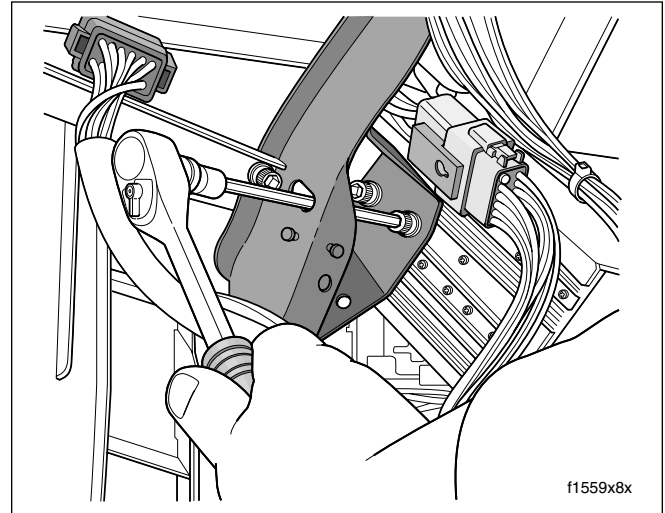

Figure 8-141. Release Radio from Fairing Brackets (FLHTC/U)
5. Using a long shank ball end socket (Snap-on® FABL6E), remove four socket head screws to release radio (storage box on FLHT) from left and right radio support brackets. Use oblong holes in fairing brackets to access screws. See Figure 8-141.